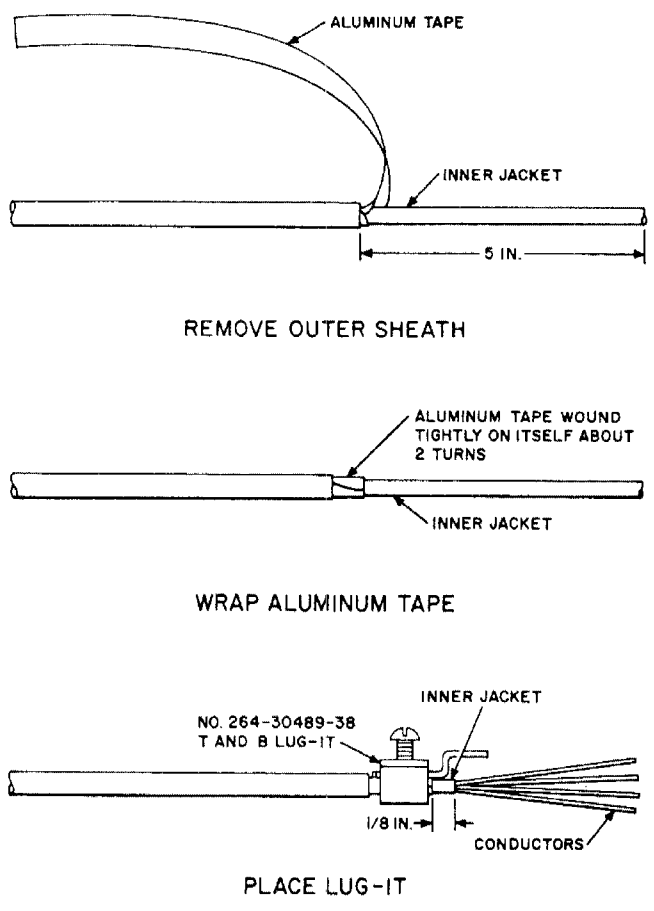

Fig. 17—Placing Lug-It
6.04 Install the 123A1A or 128A1A-2 Protector on the wall and mark the location of the Lug-It on the service wire. Cut off the service wire about 5 inches beyond this mark. Remove the outer jacket, untwist the aluminum tape, and install the Lug-It as illustrated in Fig. 17.
6.05 The Lug-It can be installed on underground wire as outlined in 6.04 and Fig. 17.